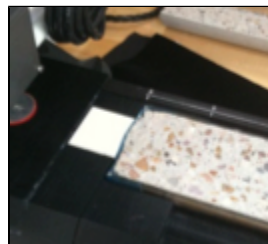

Figure 2. Benchmark
1. Place the archive section in the core tray with the blue endcap up against the benchmark (Figure 2).